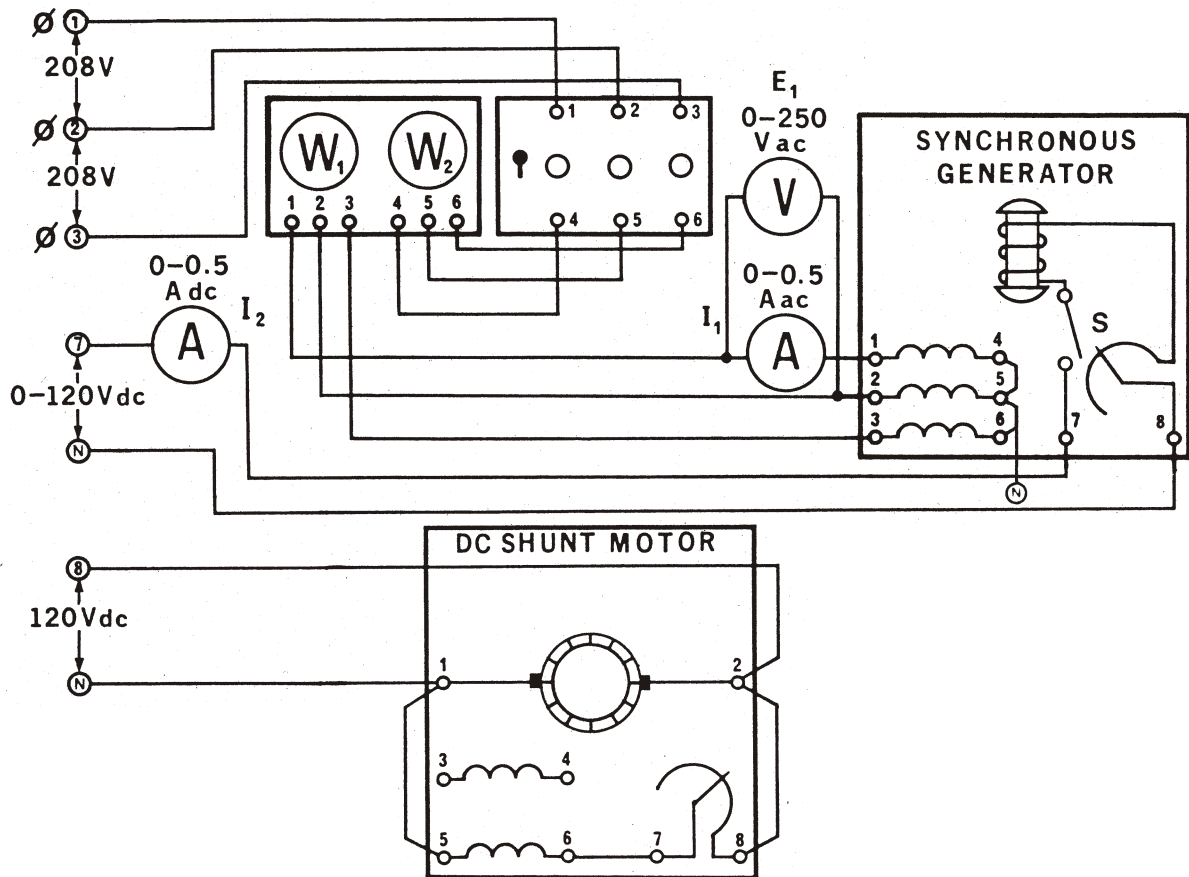

Figure 13-1.
- 1. Using your Three-Phase Synchronous Motor/Generator, DC Motor/Generator, Synchronizing Module, Power Supply, AC Ammeter, AC Voltmeter and DC Voltmeter/Ammeter, connect the circuit shown in Figure 13-1. Note that the alternator output is connected through the wattmeter and synchronizing switch to the fixed 208 V 3 ϕ output of the power supply, terminals 1, 2 and 3. The alternator rotor is connected to the variable 0-120 V dc output of the power supply, terminals 7 and N. The DC shunt motor is connected to the fixed 120 V dc.